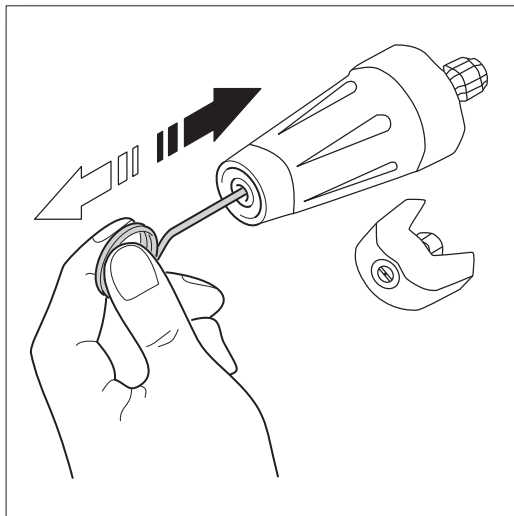

Fig. 22
- Using the nozzle tip cleaner provided (or an unfolded paper clip), insert the wire into the nozzle hole and move back and forth until debris is dislodged (**Fig. 22**). Back flush water through the nozzles using garden hose and highest pressure available (either standard water nozzle or use your thumb over the nozzle to create water pressure for back flush).